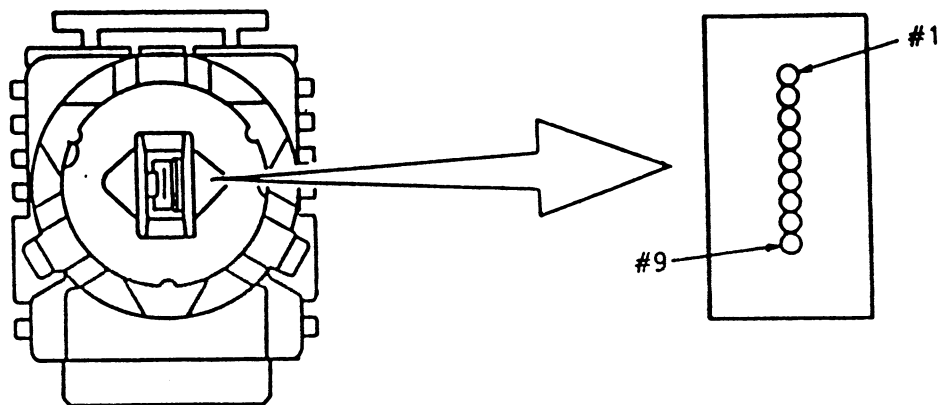

Figure 3-2 Arrangement of the head pins
3.2.1 Printhead mechanism and operation (See Figure 3-2)